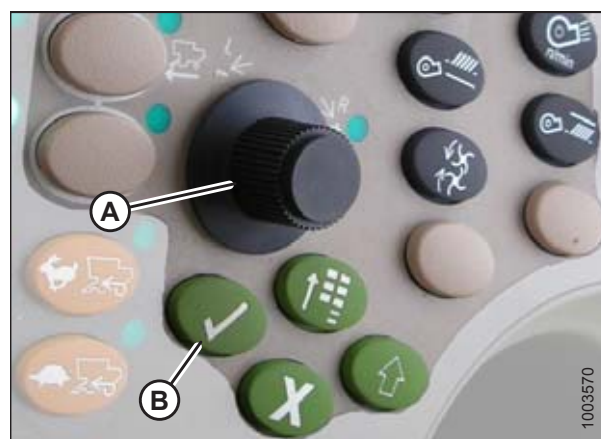

Figure 3.334: John Deere Combine Control Console
6. Select HEADER in box (A) by scrolling down to the box using the scroll knob, and then pressing the check mark button (knob and button are shown in Figure 3.334, page 217).
7. Scroll down to the lower right icon that resembles an arrow in a diamond (B) and press the check mark button to select it.